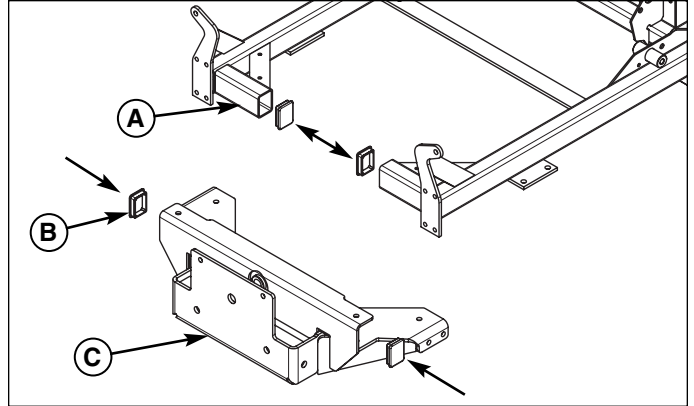

Figure 4. Install Plastic End Caps
7. Install the plastic end caps (B, Figure 4) in the ends of the cut cross member (A) and the new front end (C).